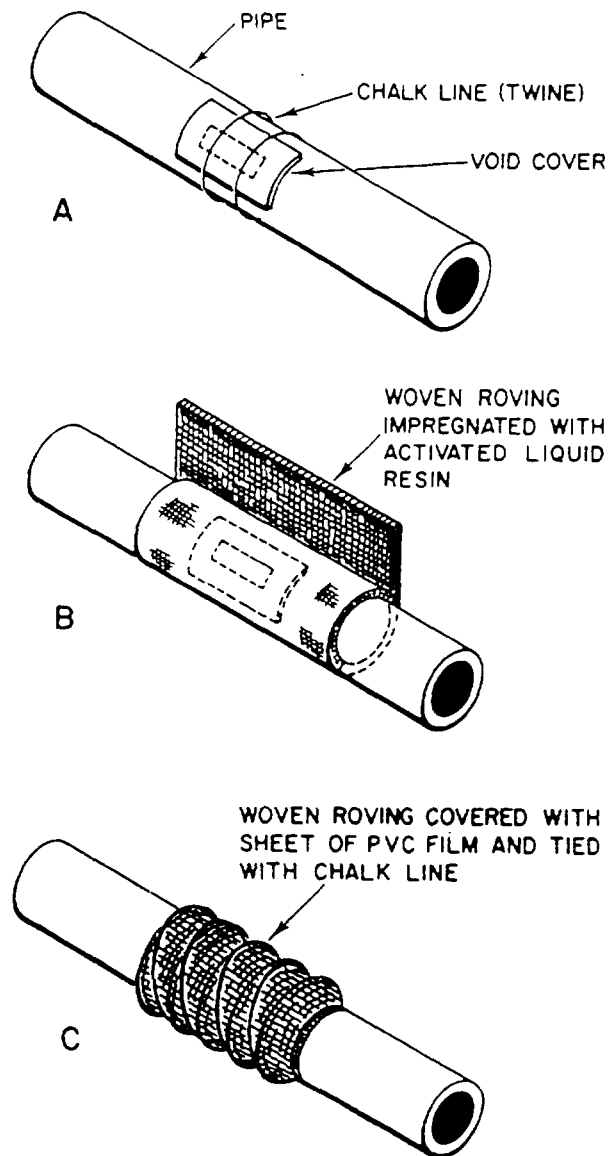

Figure 2-26.—Simple pipe patch.
3. Coat both sides of the void cover with the resin hardener mixture and tie the void cover over the rupture with chalk line (view A of fig. 2-26).
5. Center the woven roving cloth over the void cover with the impregnated side toward the pipe and wrap around the pipe not less than three turns and preferably not more than four turns. See view B of figure 2-26.
6. Wrap the PVC film around the entire patch, making at least two complete turns. Tie the PVC film with the chalk line, starting from the center of the patch and working toward one end, making 1/2-inch spacings between spirals (view C of fig. 2-26). Tie this end securely but do not sever the line. Make one spiral back to the center of the patch, then, working to the opposite end from the center of the patch, make 1/2-inch spacings between spirals and again secure the line. After 30 to 40 minutes, the patch should be sufficiently cured to restore the pipe to service.